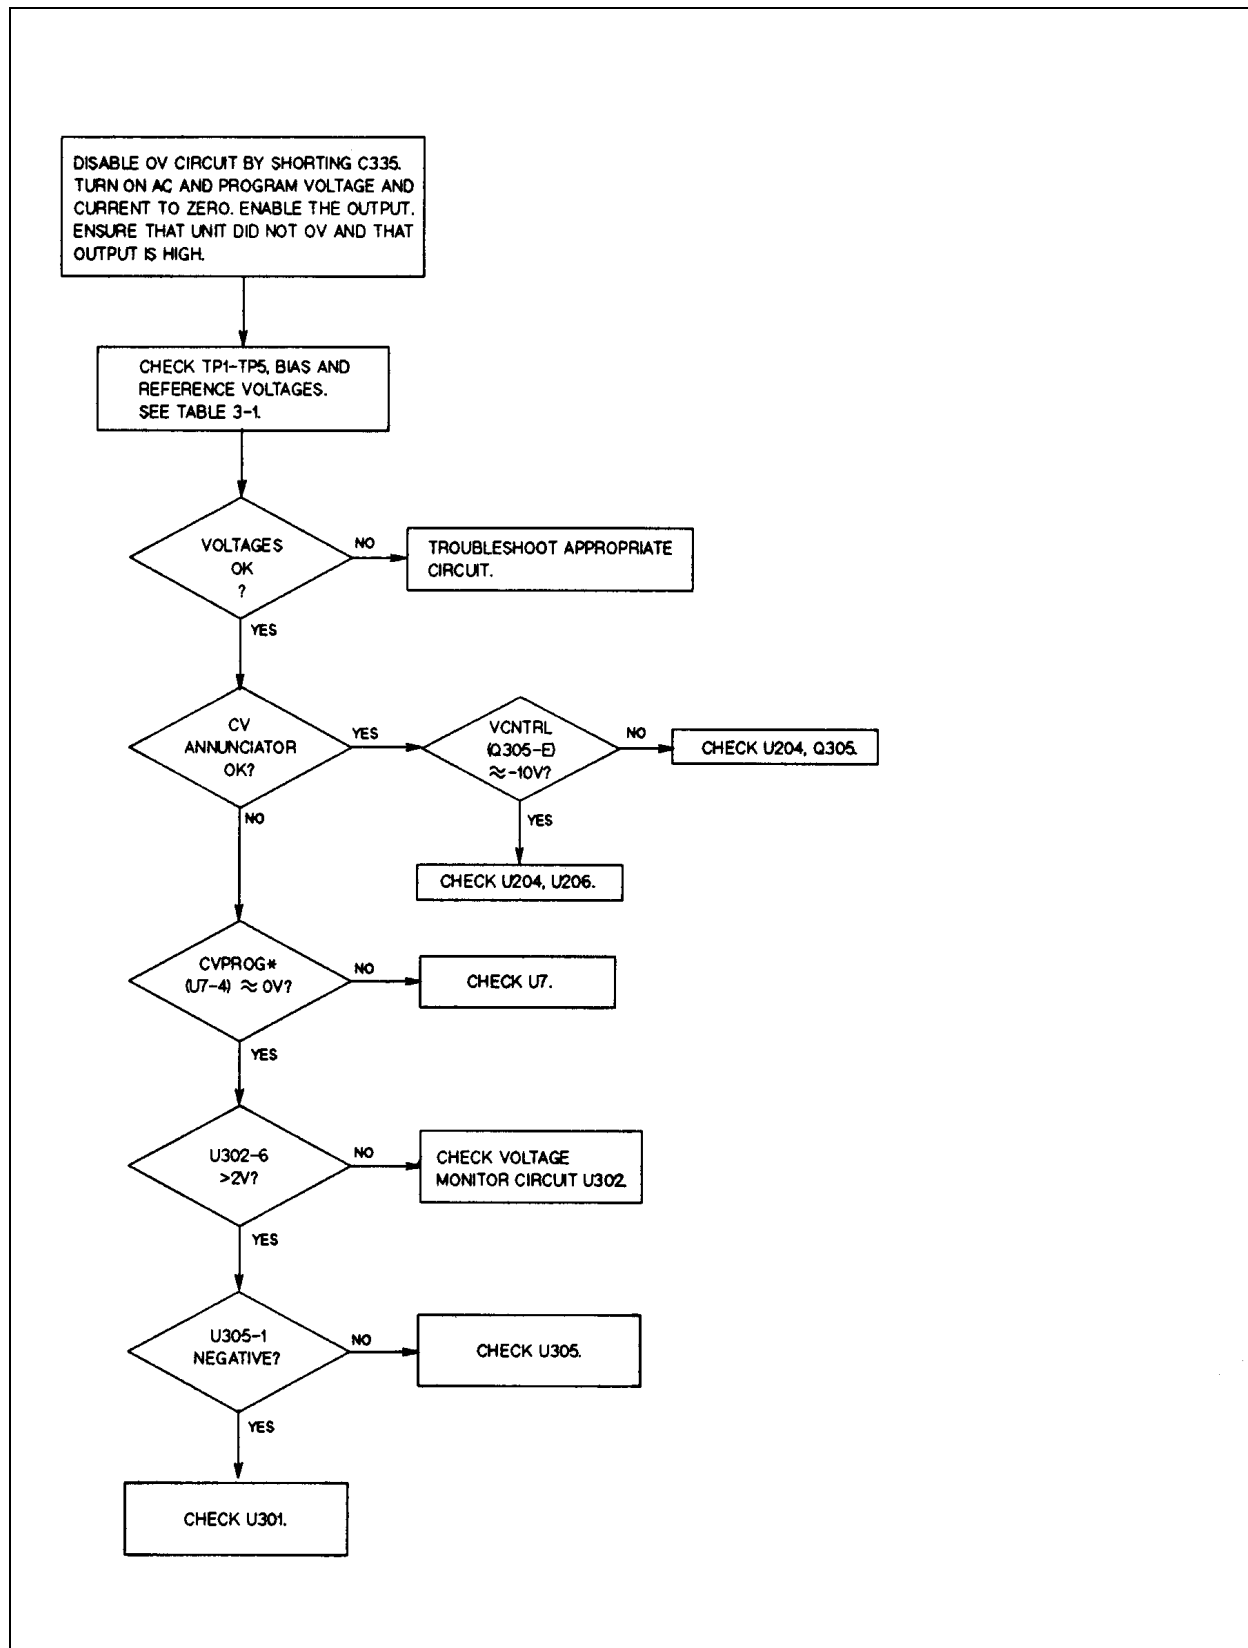

Figure 3-6. Troubleshooting High Output
- Figure 3-6 - Troubleshooting High Output